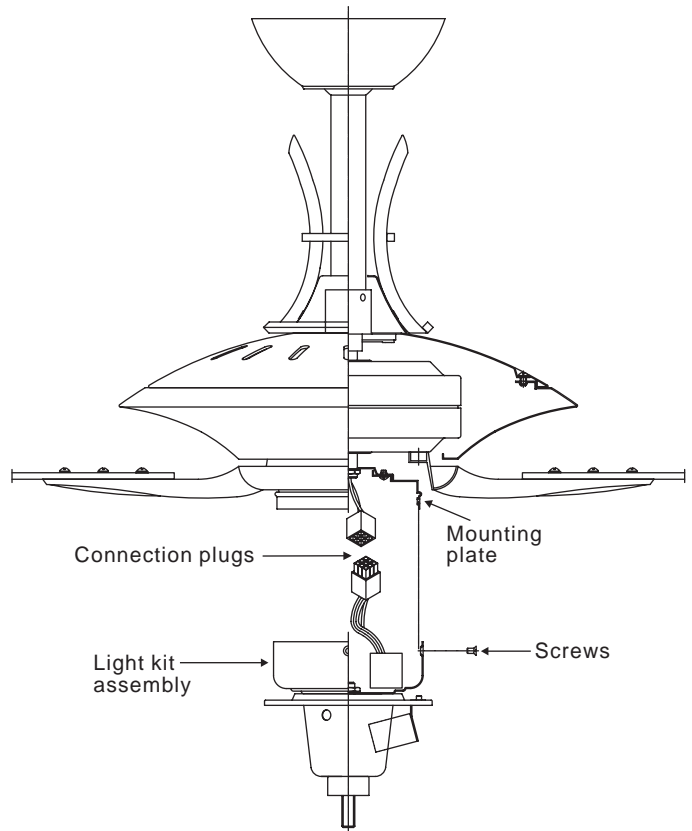

Figure 16
2. Carefully push all wires back into the switch housing, then install the light kit assembly onto the mounting plate with 3 screws provided. Be sure to tighten all screws. (Fig. 16)